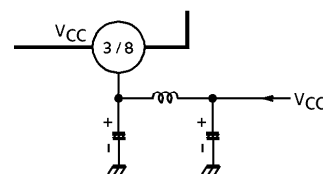

Fig.2 LC Filter
2. In case that spurious radiation due to the oscillation is large, it is recommended to provide LC filter on the power supply line as shown in Fig.2.